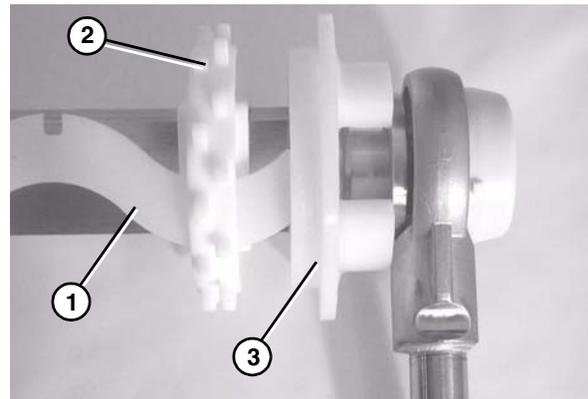

Figure 75
3. Insert the sprocket alignment bar (Figure 75, item 1) into the first sprocket (Figure 75, item 2) resting it up against the flanged puck (Figure 75, item 3). Position the first sprocket with the notch in the sprocket alignment bar.